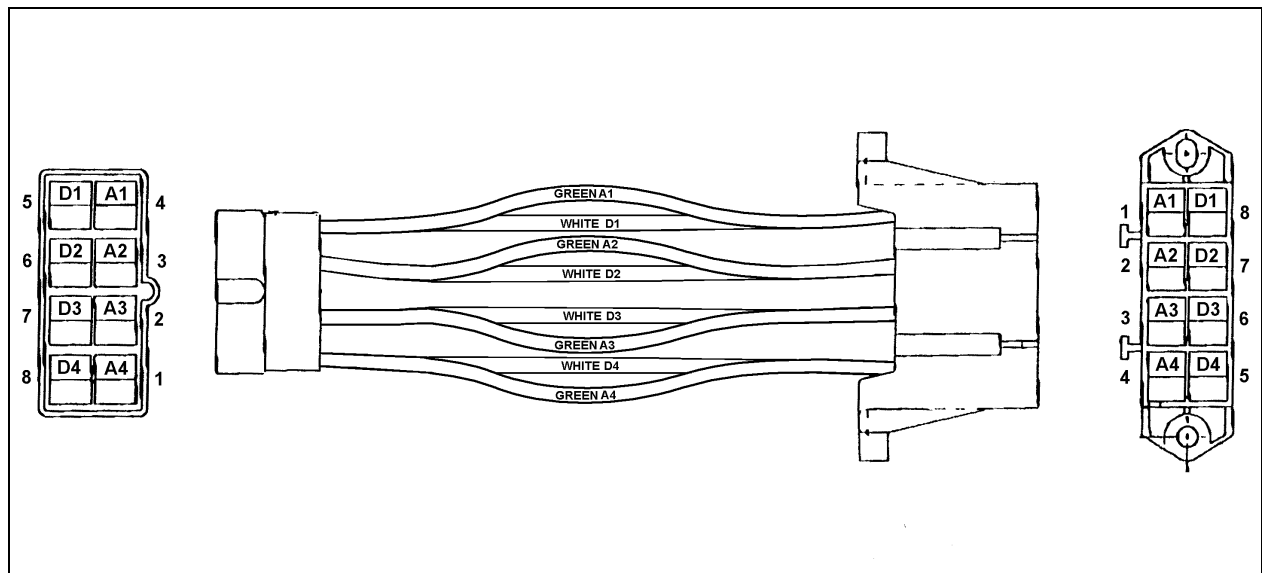

FIGURE 2: CONNECTORS POSITIONING
3. Ensure that fuse blocks wiring is in accordance with figure 2.